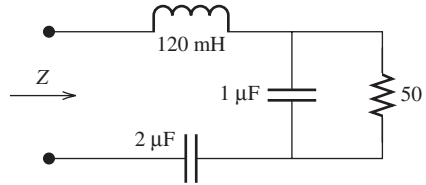

FIGURE P6.24 Circuit for Problem 6.24.
- 6.24 (A)* If $\omega = 250$, find Z in Figure P6.24.